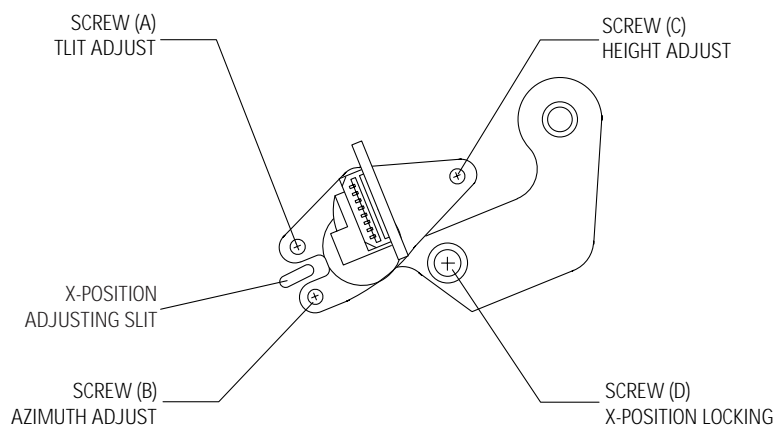

Fig. 6-7 Location of ACE Head Adjustment Screw
- 3) Turn screw (C) clockwise or counterclockwise until the gap of lower tape edge and the lower edge of the control head is about 0.25mm. (Refer to Fig. 6-7 and 6-8)
- 3) Adjust screw (B) to achieve maximum audio level. (See Fig. 6-7)